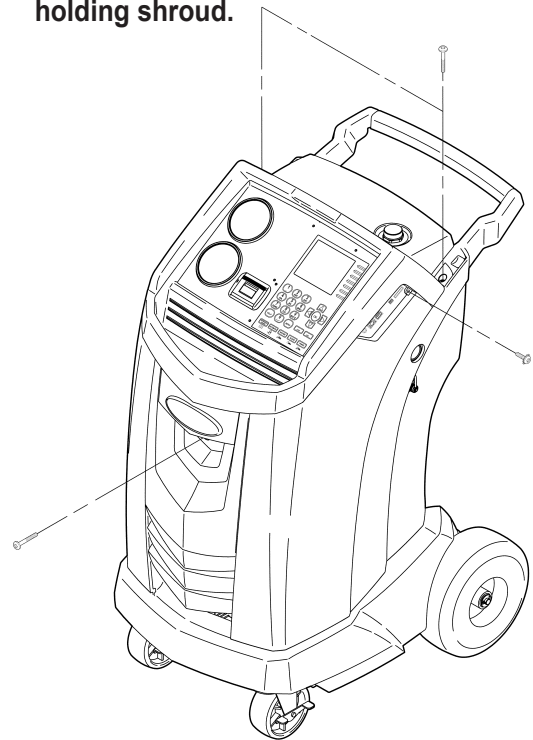

Figure 21
2. Remove the oil bottle, and remove the four screws holding the shroud. See Figure 21. Hang the shroud on the back of the machine.